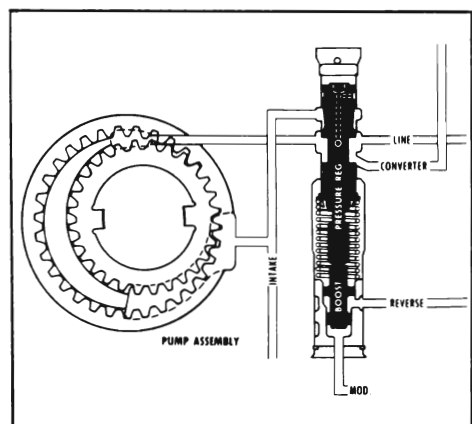

Figure 5-211—Pressure Regulator
a. Regulates line pressure according to a fixed spring force and forces controlled by modulator and reverse pressure. See Figure 5-211.